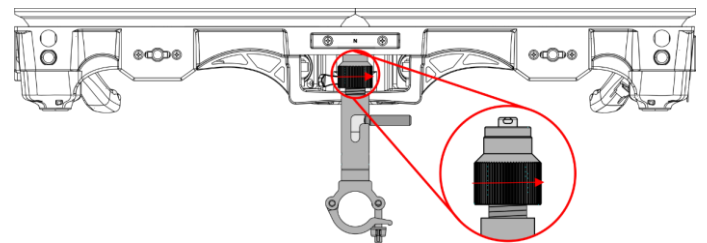

Fig. 37
- 03) To level the LED screen, turn the front of the stacking bracket clockwise, as shown in Fig. 37.